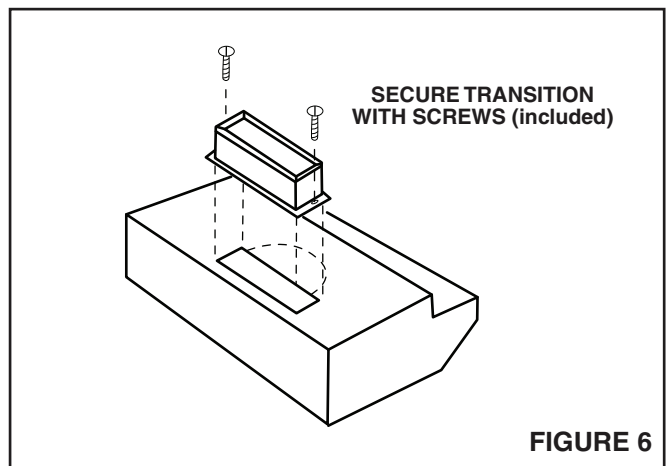

FIGURE 6
**For 3/4" x 10" vertical discharge installation, refer to FIGURE 6.** Secure 3/4" x 10" transition (if used) to top of hood.